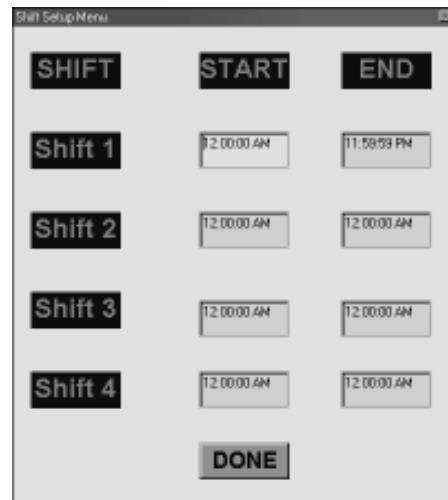

Figure 27: Shift Setup Menu
9. Refer to *Figure 27* for the **SHIFT SETUP MENU** that will appear.